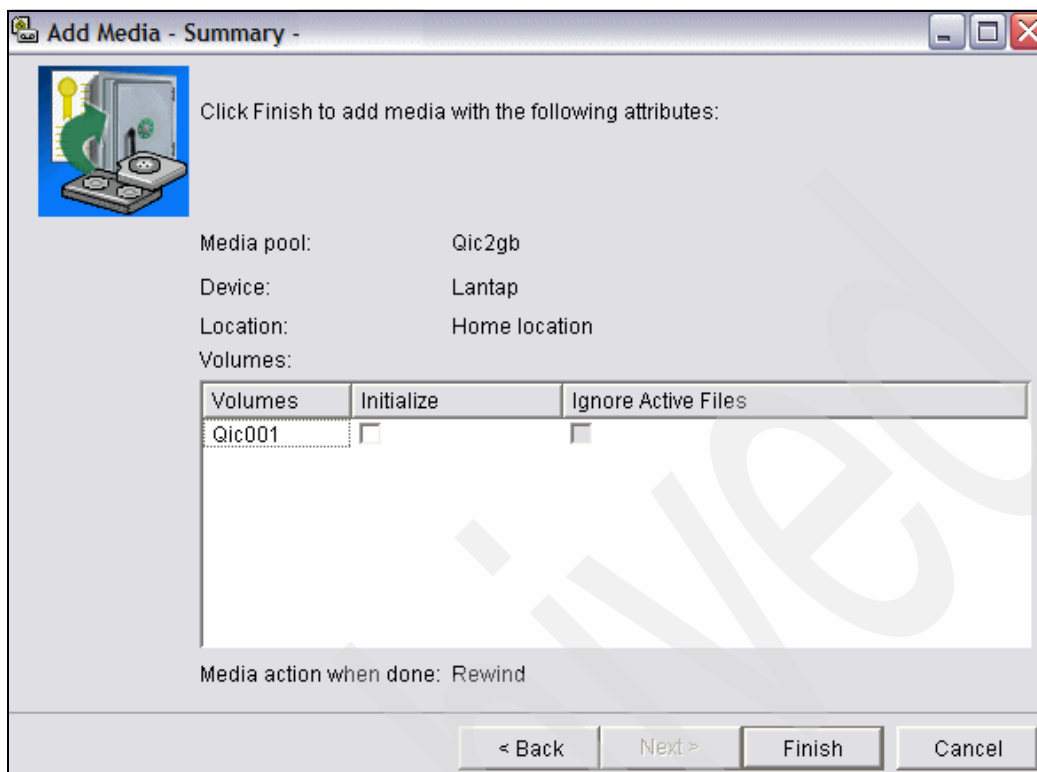

Figure 7-91 BRMS duplicating volumes, add physical media - summary
7. As there is nothing else to be done, in the Summary window shown in Figure 7-91 on page 414, click **Finish**.
- Click **Finish** in Figure 7-91 to return to the window where you started, as shown in Figure 7-92 on page 415. Press F5 for refresh.